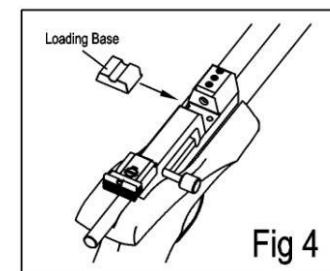

Fig 4
- With the bolt open, insert a loading base from left to right to the breech (See Fig 4). The base tongue shall match breech groove.